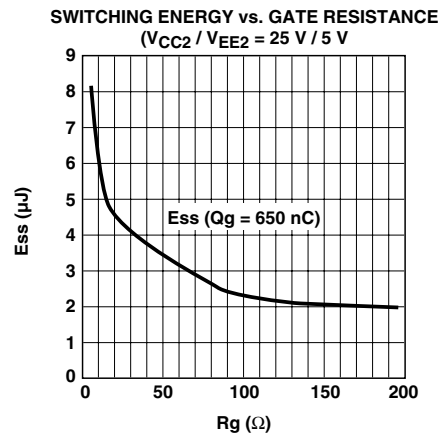

Figure 77. Switching energy plot for calculating average  $P_{switch}$  (for HCPL-316J output driving an IGBT rated at 600 V/100 A).
2. Calculate total power dissipation in the part referring to Figure 77. (Average switching energy supplied to HCPL-316J per cycle vs. RG plot);
For  $R_G = 10.5$ , the value read from Figure 77 is  $E_{SWITCH} = 6.05 \mu\text{J}$ . Assume a worst-case average  $I_{CC1} = 16.5 \text{ mA}$  (which is given by the average of  $I_{CC1H}$  and  $I_{CC1L}$ ). Similarly the average  $I_{CC2} = 5.5 \text{ mA}$ .
$P_i = 90.8 \text{ mW}$ ,  $P_o = 314 \text{ mW}$ ,  $T_A = 100^\circ\text{C}$ , and assuming the thermal model shown in Figure 77 below.